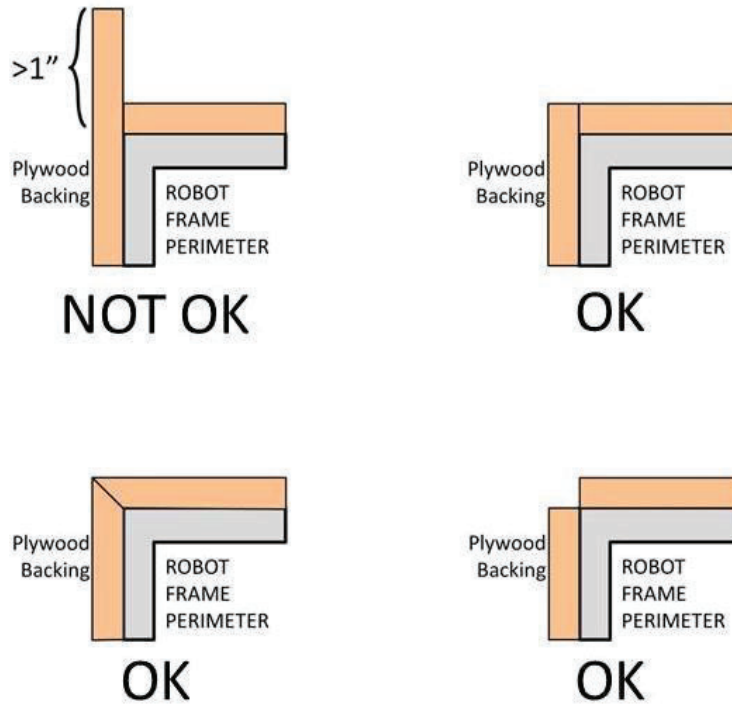

Figure 10-4 Hard Parts of BUMPER Corners
- B. hard BUMPER parts allowed per R31-A, -E, -F, and -G must not extend more than 1 in. (~25 mm) beyond the FRAME PERIMETER (measured as shown in Figure 10-4).